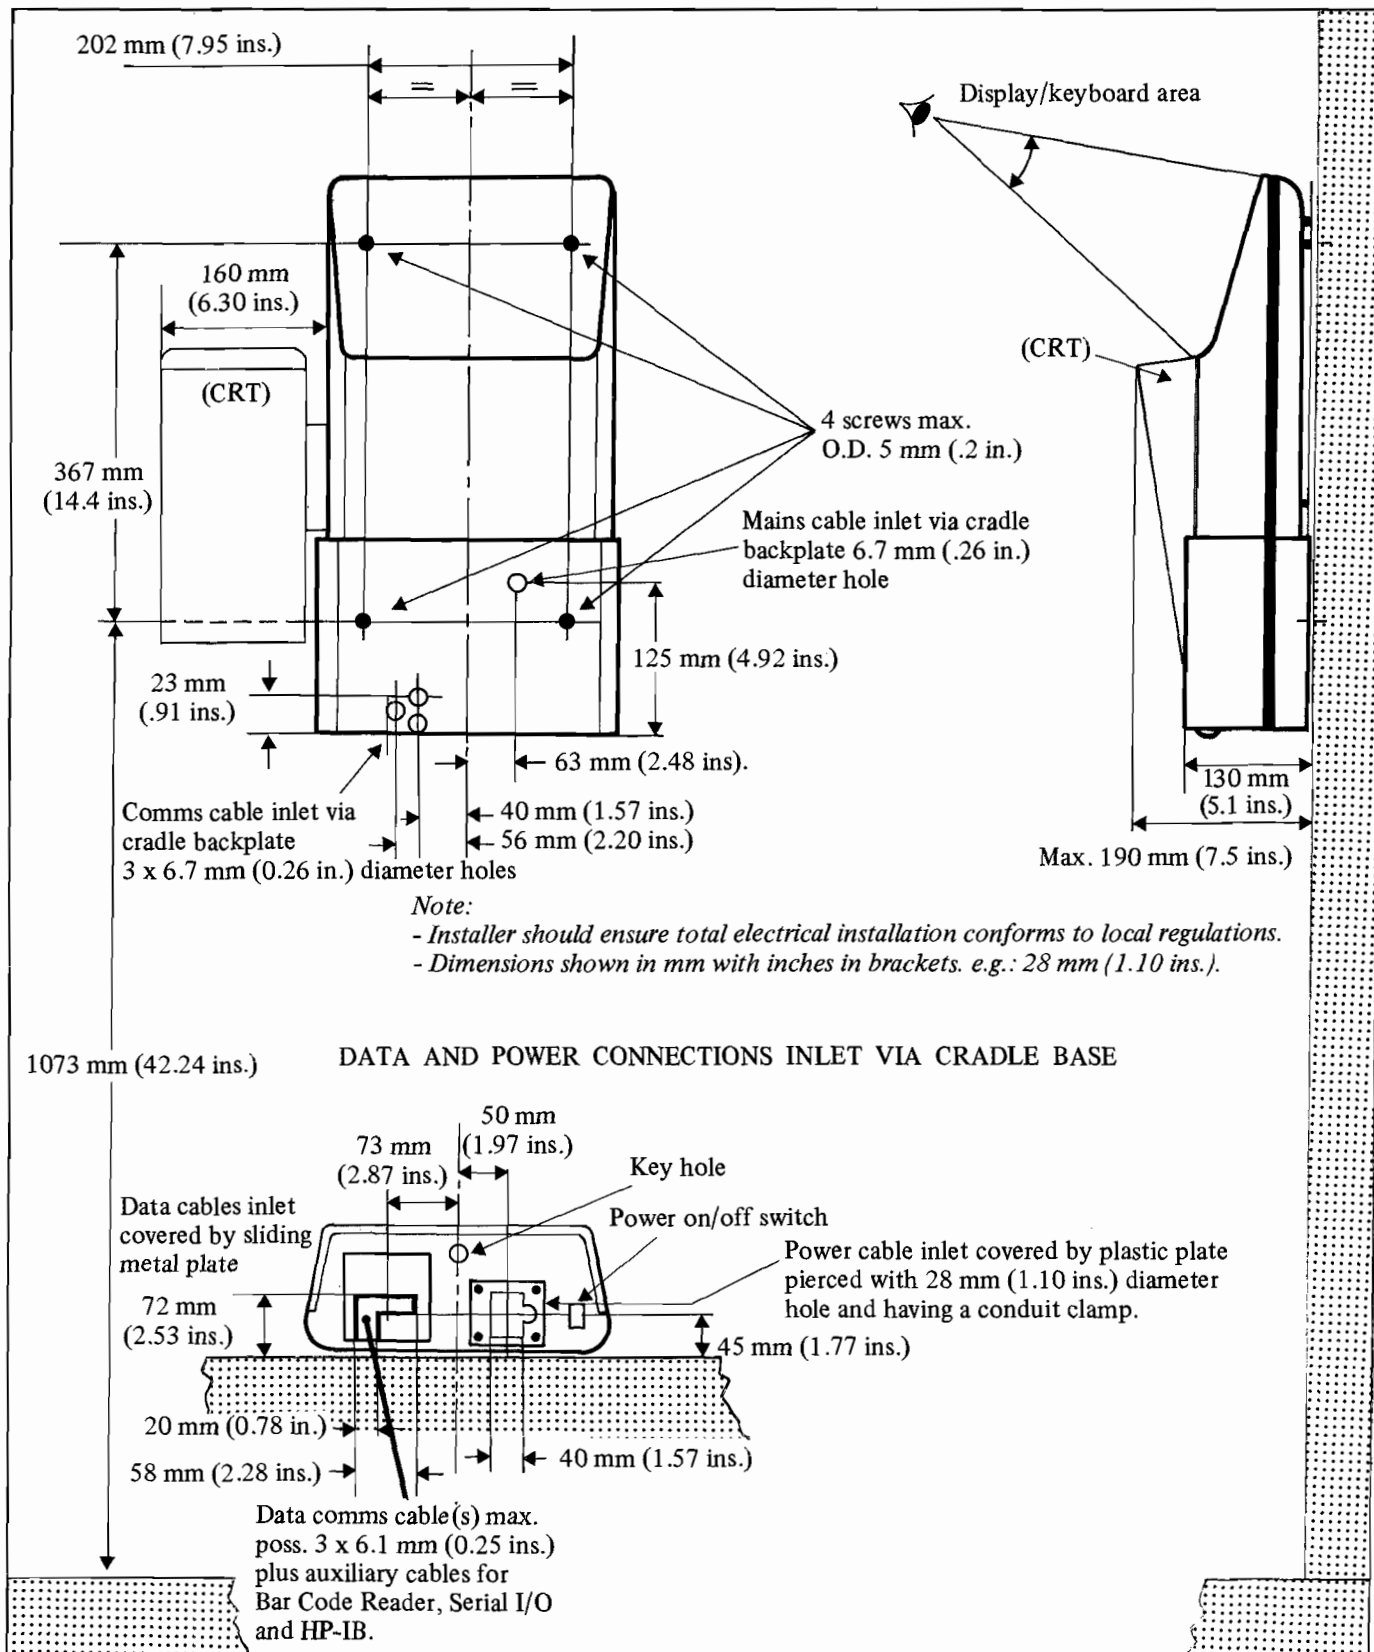

Figure 15-1 92904A Wall Mounting Cradle - Positioning Guidelines
- 7) The cradle must be mounted at eye level height, see figure 15-1 for details.
Unlock the cradle and remove the cover from the cradle backplate by sliding it downwards. Hold the cradle backplate against the wall in the required position and mark the positions of the fixing holes (see figure 15-1).
When the cradle power is supplied from inside the mounting surface, the power cable may be routed through the 6.7 mm (0.26 inch) diameter hole in the cradle backplate (see figure 15-1).
- 3) At the bottom of the cradle base, unscrew and remove the (left-hand) sliding metal plate that covers the data cables inlet (see figure 15-1).